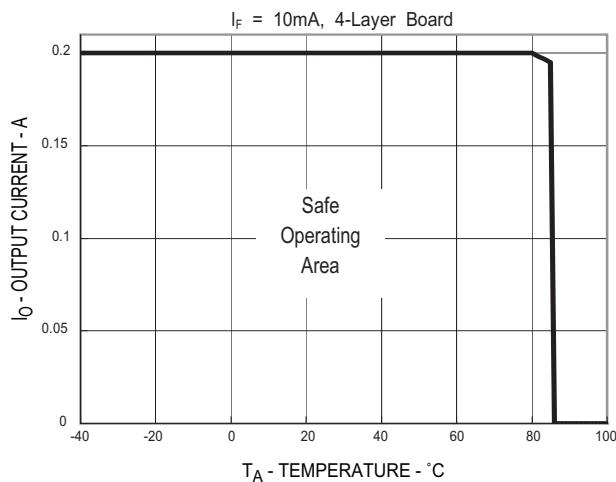

Figure 1. Maximum Output Current Rating vs Ambient Temperature (ASSR-1218-003E)
1. For derating, refer to Figure 1, 2, 3 and 4.
Figure 1, 2, 3 and 4 specify the maximum average output current allowable for a given ambient temperature. The maximum allowable output current and power dissipation are related by the expression  $R_{ss} = P_o(\text{max})/(I_o(\text{max}))^2$  from which  $R_{ss}$  can be calculated. Staying within the safe area assures that the steady state MOSFET junction temperature remains less than 125 °C.